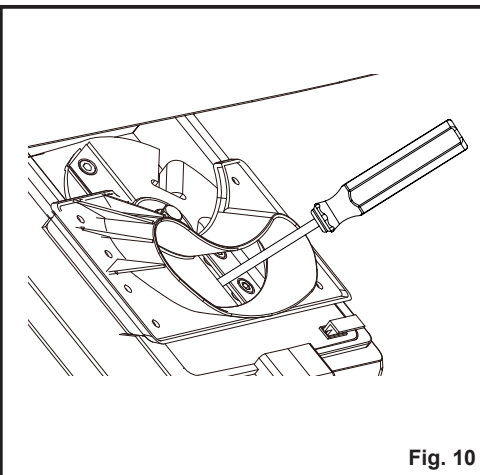

Fig. 10
- Use a screwdriver or wooden dowel (not provided) to hold the blade plate from rotating (Fig. 10).